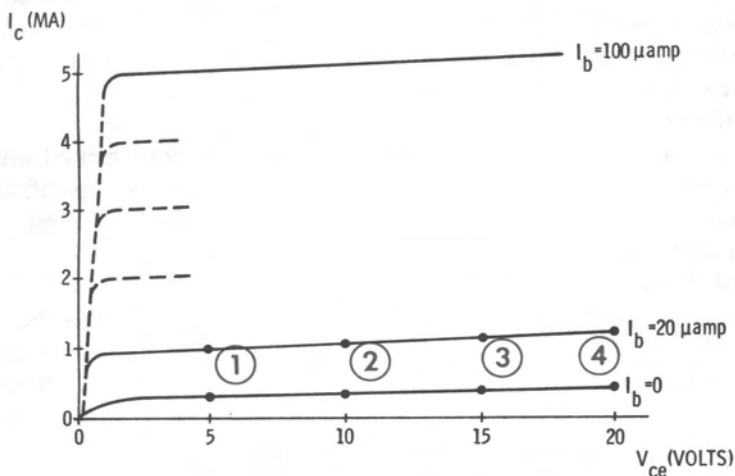

Fig. 3-22. Output curves (partial).
Fig. 3-22 shows a portion of the family of curves that results from measurements taken for different values of I_b . Start with $I_b = 0 \mu\text{amps}$. Set the collector voltage to 5 volts and measure I_c . This is point ① on the curve. Then set the collector voltage to 10, 15 and 20 volts, measuring
Q3-33. From Fig. 3-22, determine the collector current for a constant $I_b = 20 \mu\text{amp}$ as the collector voltage is increased from 5 volts to 20 volts.